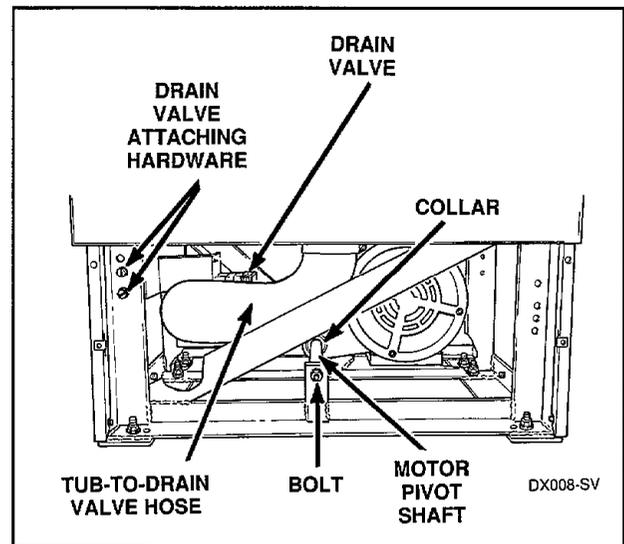

Figure 12
- l. Remove front bolt from motor pivot shaft and pull shaft out through rear of washer, *Figure 12*.
**NOTE: Block the motor in a way that will support itself when the pivot shaft is removed, *Figure 12*.**
- c. Loosen hose clamp and remove the hose from drain valve, *Figure 12*.
- e. Remove attaching hardware holding drain valve to left side of washer frame, *Figure 12*.
- f. Loosen hose clamp on the drain valve-to-tube hose and remove drain valve from hose, *Figure 12*.